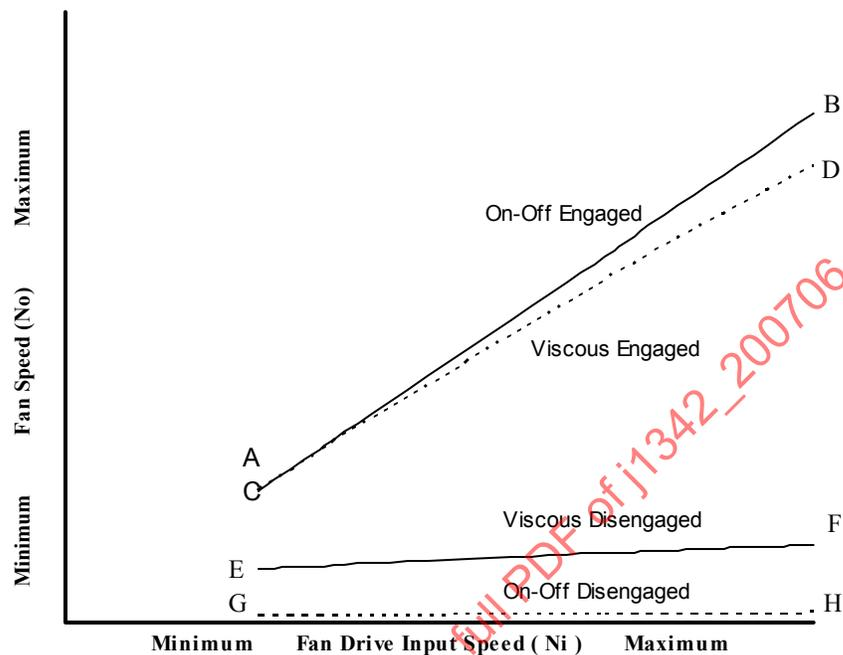
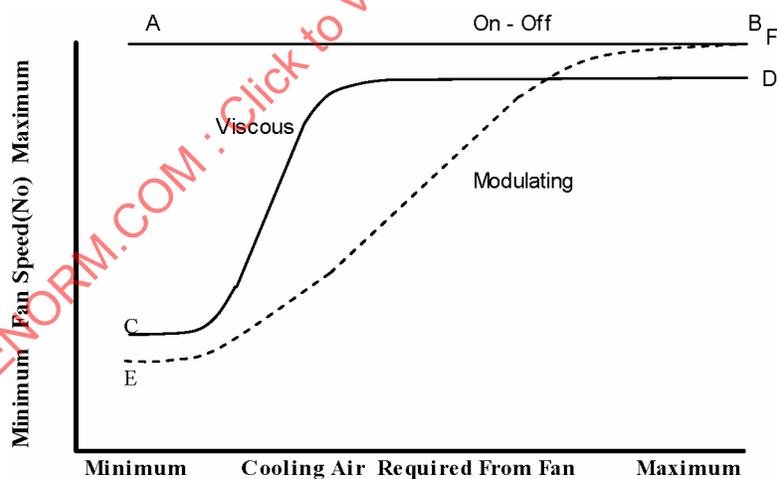

FIGURE 2 - FAN SPEED VERSUS FAN-DRIVE INPUT SPEED
FIGURE 3 - FAN SPEED VERSUS COOLING AIR REQUIRED
Fan output speed (N_o) can be determined from curves such as those presented in Figures 2 and 3. Curves as shown in Figure 2 can be provided by the fan drive manufacturer. Curves as shown in Figure 3 would normally be derived by the fan drive user.
When operating conditions do not require fan drive actuation, fan speed (N_o) will fall on line G – H (Figure 2), or may be zero (0) rpm ($N_o = 0$), depending on the particular fan clutch being analyzed.
When operating conditions require fan drive actuation, fan output speed (N_o) will fall along line A – B of Figure 2. Given a specific input speed (N_i), the output speed (N_o) can be determined from line A – B of Figure 3.